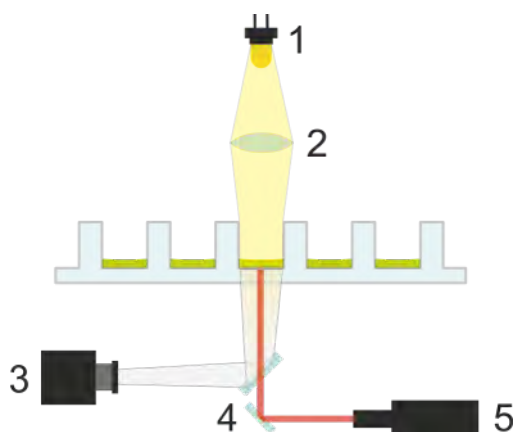

Figure 64: Cell counting optics
2. Empty the cell chip adapter and carefully remove the springs installed on the inside of the adapter lid (see Figure 64: Cell counting optics).